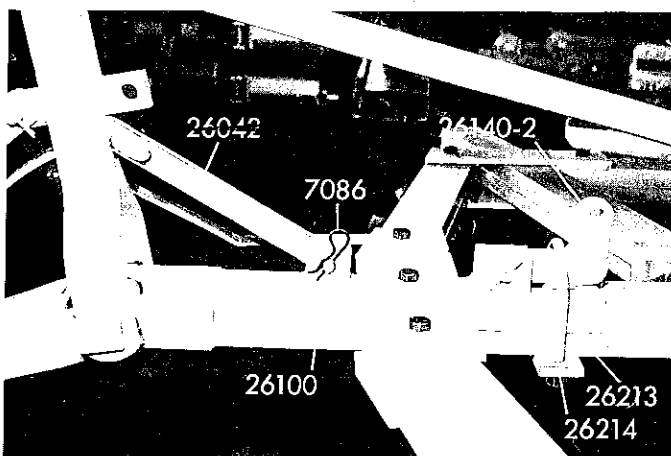

FIGURE 9A
In Figure 9A note installation of 26213 U-Bolt and 26214 strap. This is installed to lock down the 26140-2 cylinder anchor fitting only when it is desired to lift the transport wheels *entirely off* the ground. When this is installed the owner is cautioned against crossing extremely rough fields. The cylinder anchor is designed to prevent part of the tractor weight being carried directly on the front gangs. With this anchor fitting locked down, damage is possible to the disk frame or tractor hitch.
- (1) After several hours operation retighten all frame bolts and check them daily under heavy usage.
- (2) Install transport lock (Figure 9A) when transporting or storing harrow.
- (3) Use swinging drawbar for operation, but pin tractor drawbar when transporting disk.
- (4) The Eversman Disk Harrow was designed differently than most disks:
When transporting behind a tractor lock the swinging drawbar. Insert the transport lock as shown in Figure 9A.
If you desire to lift the transport wheels entirely off the ground, install anchor 26213, as per Figure 9A.